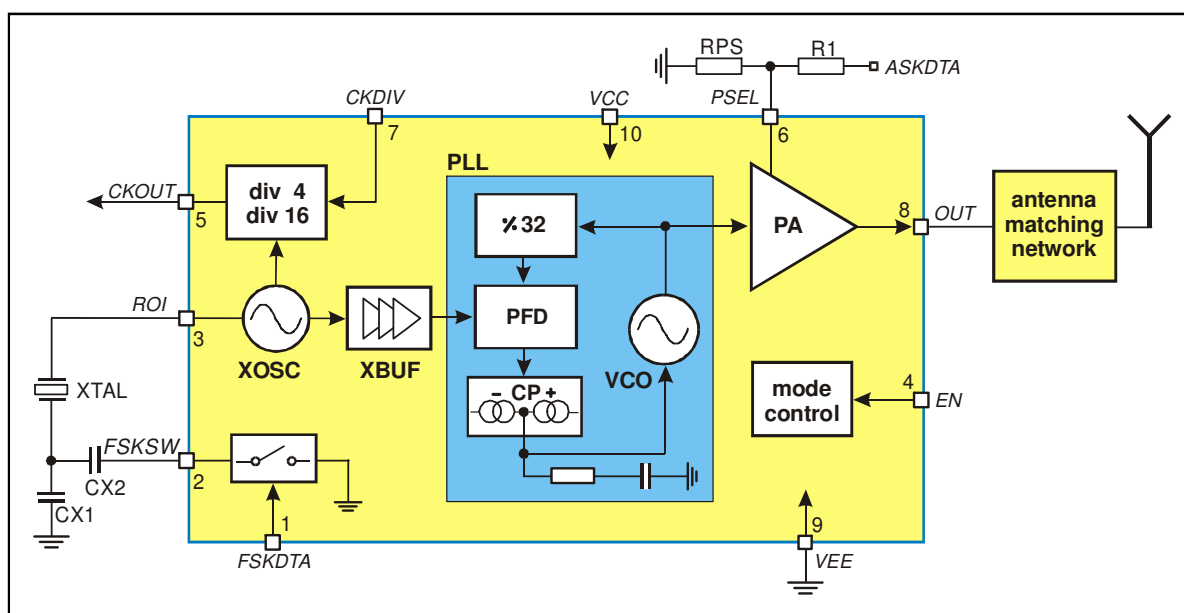

Fig. 1: Block diagram with external components
As depicted in Fig.1, the TH72006 transmitter consists of a fully integrated voltage-controlled oscillator (VCO), a divide-by-32 divider (div32), a phase-frequency detector (PFD) and a charge pump (CP). An internal loop filter determines the dynamic behavior of the PLL and suppresses reference spurious signals. A Colpitts crystal oscillator (XOSC) is used as the reference oscillator of a phase-locked loop (PLL) synthesizer. The VCO's output signal feeds the power amplifier (PA). The RF signal power P_{out} can be adjusted in four steps from $P_{out} = -12$ dBm to +10 dBm, either by changing the value of resistor RPS or by varying the voltage V_{PS} at pin PSEL. The open-collector output (OUT) can be used either to directly drive a loop antenna or to be matched to a 50Ohm load. Bandgap biasing ensures stable operation of the IC at a power supply range of 1.95 V to 5.5 V.